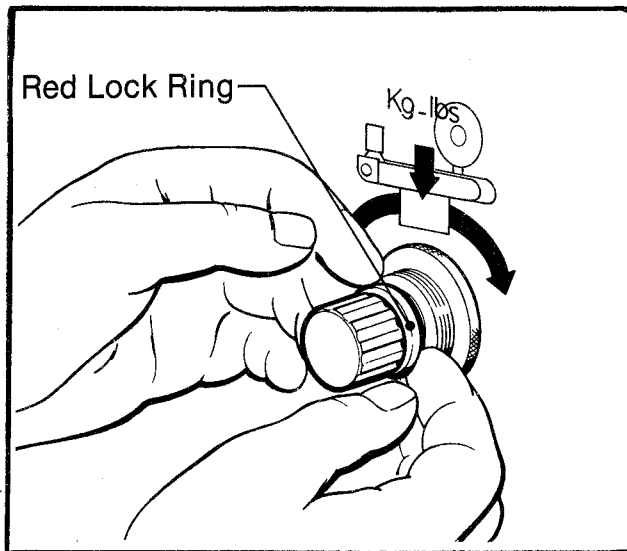

Figure 7 - Top Head Pneumatic Regulator Locking Ring
**Note:** All air pressure regulators discussed below have a **red lock ring** behind the adjustment knob, as shown in Figure 7. The red lock ring should be **pulled toward the knob to unlock** the knob for air pressure adjustment, **pushed back against the regulator body to lock** the knob after adjustment if desired.
#### "Down" Movement Air Pressure Regulator (Refer to Figure 7)